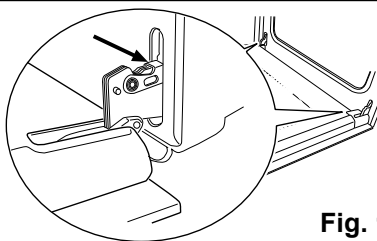

Fig. 1
- 2) locate the two door hinges (Fig. 1);